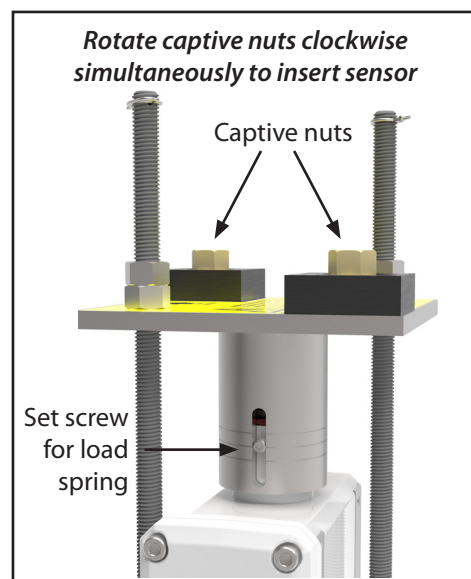

Figure 22. Captive Nuts
4. Rotate the two captive nuts (Figure 22) on the top plate clockwise simultaneously with the provided 9/16" ratchet wrenches. This will insert the sensor probe into the pipe.